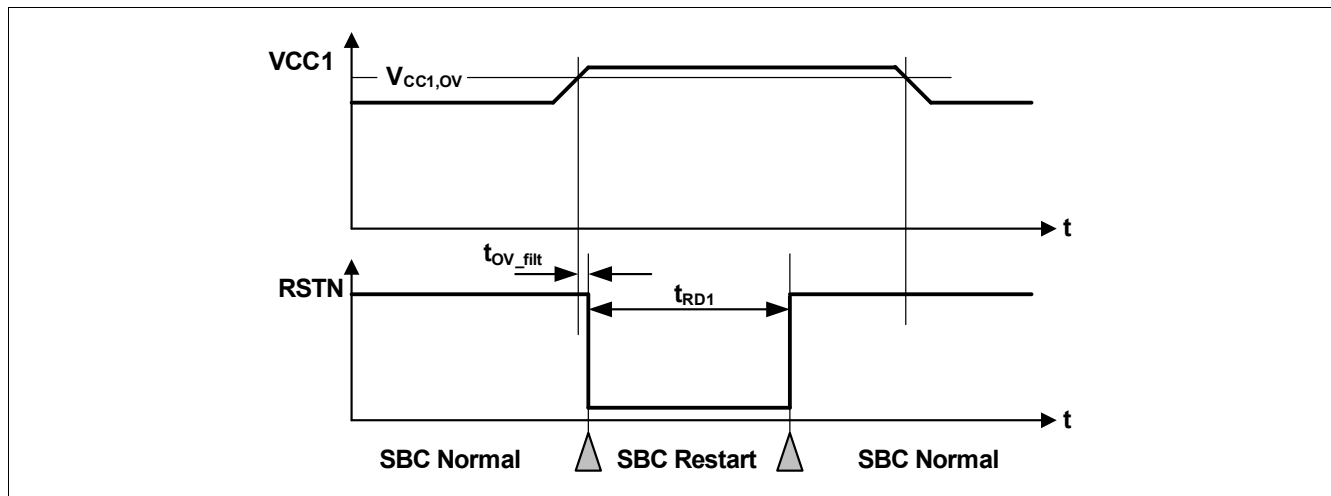

Figure 43 VCC1 Over Voltage Timing Diagram
- If the bit VCC1_OV_RST is set and CFG0_STATE = '1', then SBC Restart Mode is entered. The FO output is activated. After the reset delay time (t_{RD1}), the SBC Restart Mode is left and SBC Normal Mode is resumed even if the VCC1 over voltage event is still present (see also Figure 43). The VCC1_OV_RST bit is cleared automatically;